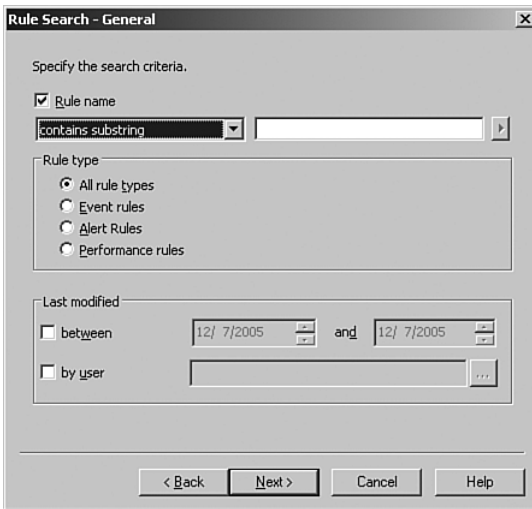

FIGURE 18.8 Searching for a rule in the Administrator console.
3. Proceed to the Rule Search - General screen shown in Figure 18.8 where you would select to search by Rule Name, contains substring, and the name of the rule you are searching for.